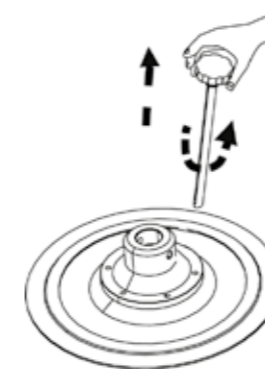

Fig. 11
1. Loose the follower plate bleeder and remove it (fig. 11).